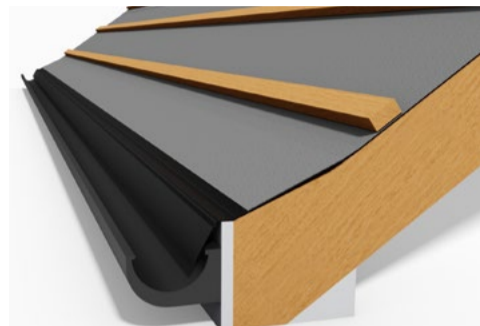

fig 1: Eaves detail
2. Lay Danelaw LR120 printed side facing outwards, parallel to the eaves with the bottom edge overlapping the support tray (fig. 1) or 5U membrane by 150mm. The edge of the Danelaw LR120 roof tile underlay should not be exposed to UV once the first course of tiles or slates are installed.